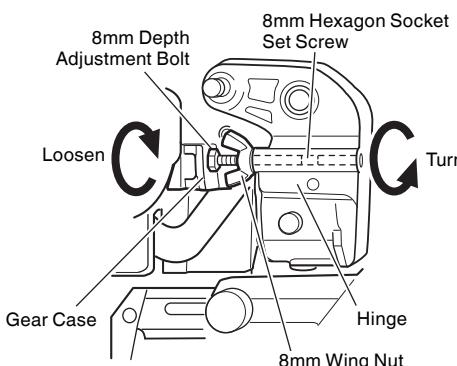

Fig. 11
To adjust the lower limit position of the saw blade, follow the procedures (1) to (4) indicated below. (Fig. 11)
To adjust the lower limit position of the saw blade, follow the procedures (1) to (3) shown in Fig. 11-a.
- (1) Loosen the 8mm wing nut so that the 8mm depth adjustment bolt can be turned by hand.
- (2) Lower the motor head, and thru the 8mm depth adjustment bolt by hand and make adjustments so that there can be a clearance of 3/32" to 1/8" (2mm to 3mm) between the lower limit position of the motor head and the top of the workpiece at the saw blade's lower limit position (where the head of the 8mm depth adjustment bolt contacts the gear case).
- (3) After adjustment, turn the 8mm wing nut until it contacts the Hinge (see Fig. 11), and fully tighten it.